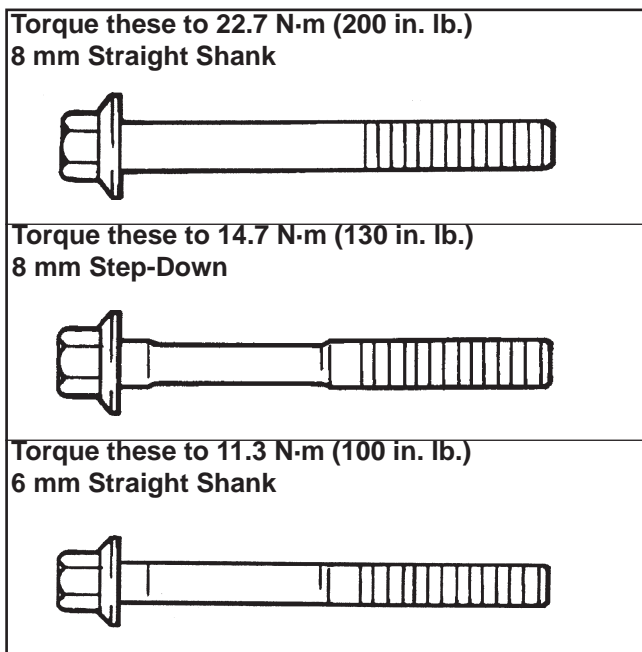

Figure 11-10. Connecting Rod Bolts.
- Three different types of connecting rod bolts have been used in production and each has a different torque value. See Figures 11-10 and 11-11. The 8 mm straight shank style rod bolts must be torqued in increments to **22.7 N·m (200 in. lb.)**. The 8 mm step-down shank style rod bolts must be torqued in increments to **14.7 N·m (130 in. lb.)**. The 6 mm straight shank style rod bolts must be torque in increments to **11.3 N·m (100 in. lb.)**. Illustrated instructions are also provided in the service rod package.